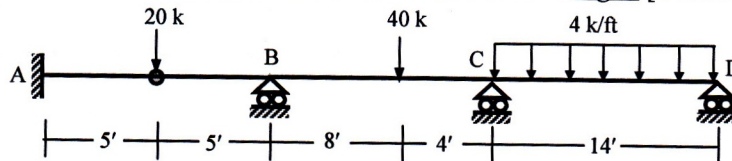

Fig. 8
8. Use the Energy Method to calculate the plastic moment M_p needed to prevent the development of plastic hinge mechanism in the beam ABCD loaded as shown in *Fig. 8* [Given: $M_{p(ABCD)} = M_p$].